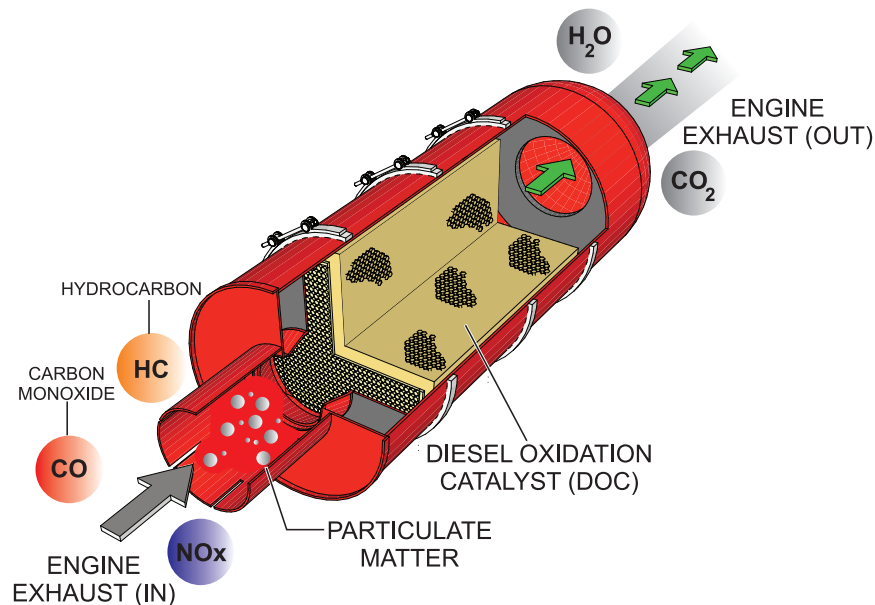

Figure 193. Diesel Oxidation Catalyst (DOC)
The DOC device (Figure 193) helps in filtering out large amounts of harmful nitrogen oxides (NO_x) and particulate matter (PM) which are emitted by diesel engines. These exhaust emissions pose serious environmental and health risks. It is important to maintain and service the DOC emission safety device on a periodic basis.